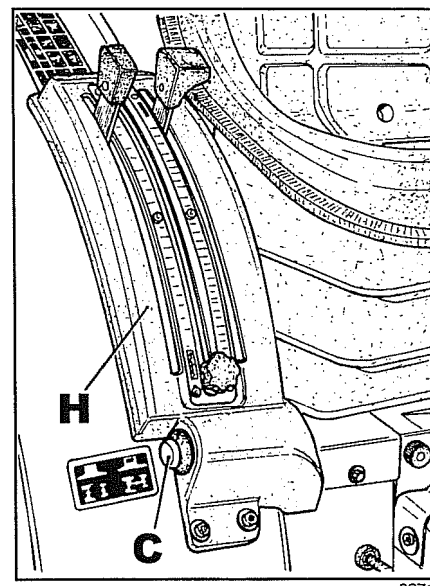

Fig. 2
Next check if the magnetic effect is cancelled by working the coupled brake pedals and also by pressing the dual traction button **C** fig. 2. If it is, this means that the solenoid problem is hydraulic (refer to the appropriate section).
- 10 On the mudguard slacken off lift control lever guard **H** fig. 2 and then remove the locking ring retaining the dual traction button **C**.